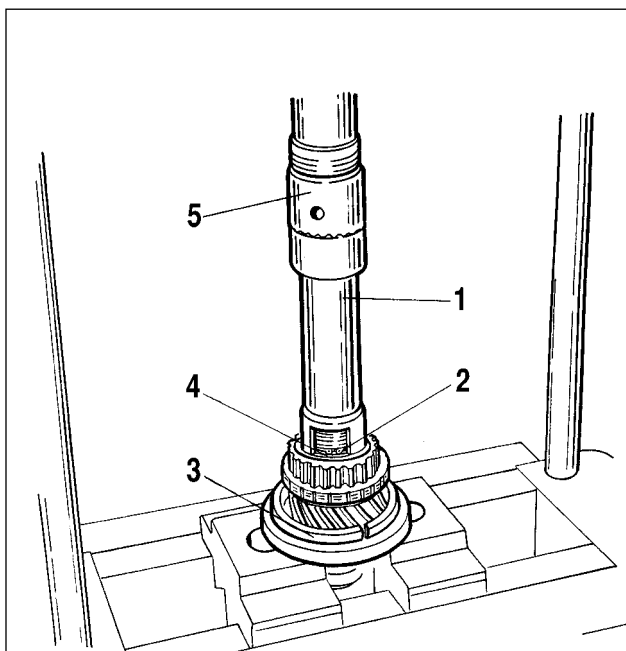

Fig. 3-32. Refitting the circlip on the output shaft:
- place the output shaft with tool 41.7816.4069 on a press (fig. 3-32), place two thrust half-rings 3 under 3rd speed gear and by pressing the spring washer with the mandrel, remove the circlip 2, then spring washer 4, 3rd/4th sleeve hub and 3rd speed gear.